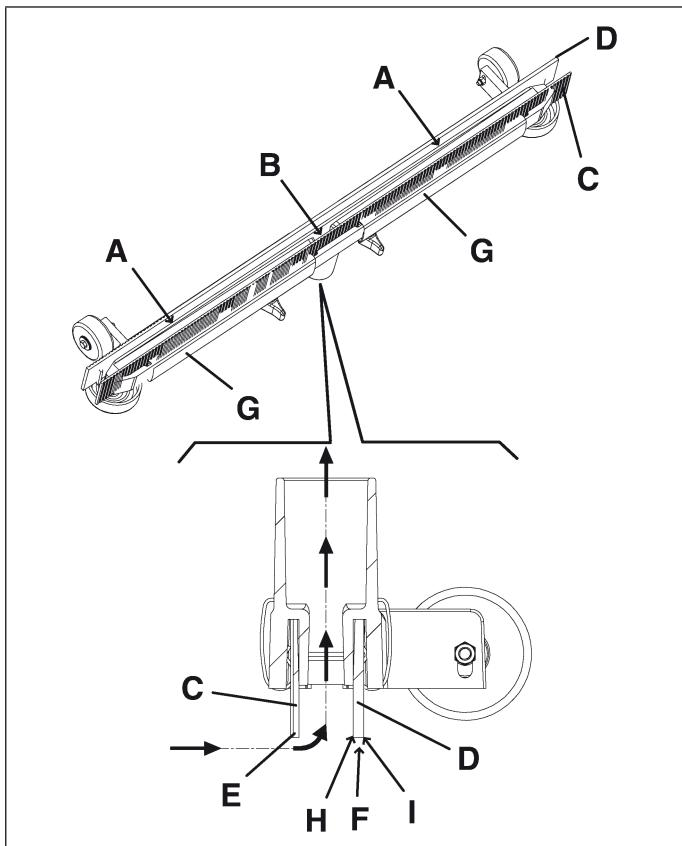

Figure 17
6. Check the front blade (C, Fig. 17) and the rear blade (D) for wear, cuts and tears; if required replace them according to the procedure in the "Squeegee Blade Check and Replacement" section below).
2. Check that the edge (E, Fig. 17) of the front blade and the edge (F) of the rear blade lay down on the same level, along their length; otherwise adjust their height according to the following procedure:
- Remove the fixing springs (G, Fig. 17) and adjust the front blade (C) and the rear blade (D).
3. Check the front blade (C, Fig. 17) and rear blade (D) for wear, cuts and tears. If necessary, replace them according to the following procedure:
- Remove the spring clamp (G, Fig. 17) and replace the blade.
4. Reinstall the spring clamp (G, Fig. 17).